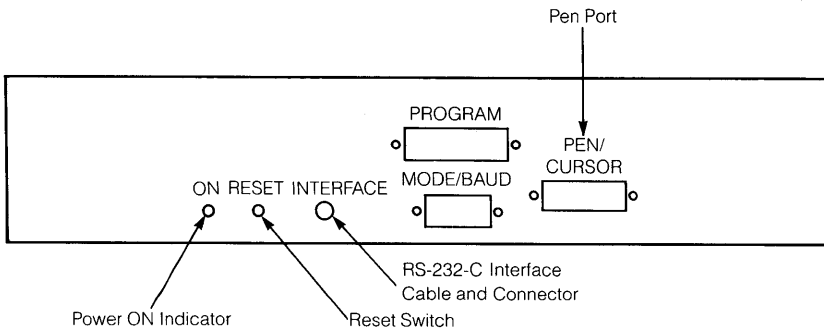

Figure 2: The back panel of the Graphics Tablet
- Figure 2: The back panel of the Graphics Tablet
2. The tablet draws power directly from the computer through the RS-232-C Module With Power Option (see Figure 2). If necessary, remove your RS-232-C Module from your computer, make sure that the power switch is in the ON position, and reinstall the module. (See Section 3, "Installation," in the RS-232-C Module With Power Option Operation Guide and to Section 6, "Enhancing Your System," in the Mindset Personal Computer System Operation Guide for module installation instructions.) If your RS-232-C module doesn't have a power switch on it, you'll have to replace it with an RS-232-C Module With Power Option – contact your dealer.
3. Connect the D-shaped RS-232-C connector on the tablet cable to the connector on the back of the RS-232-C module (see Figure 2). Tighten the two screws that hold it in place.